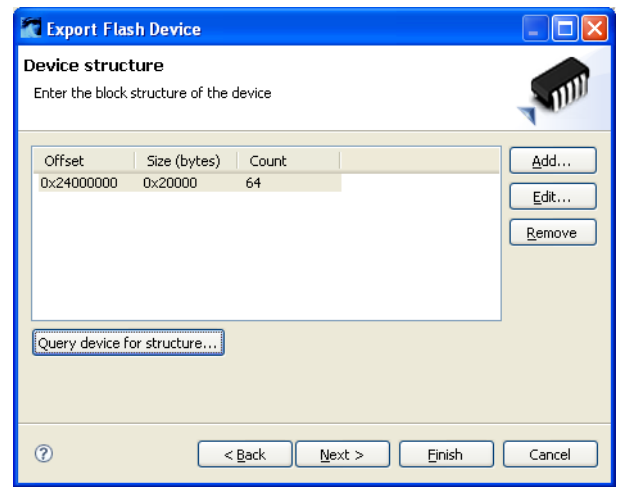
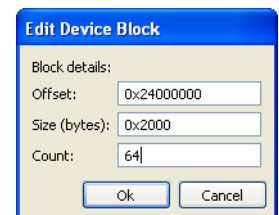

Figure 6-20 Export flash device structure
Figure 6-21 Export flash device block
- Using the **Add...** and **Edit...** buttons to enter the block structure for your flash device. Figure 6-20 and Figure 6-21 shows the device structure and block details. When the device structure is complete, click on **Next**.